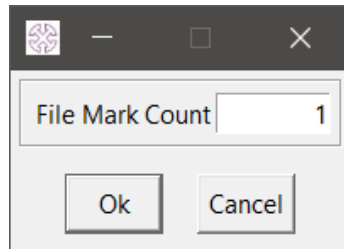

Figure 3-11 Write File Mark Option
1. Click on the **Write File Mark** button. A Write File Mark box will open Figure 3-11 below.